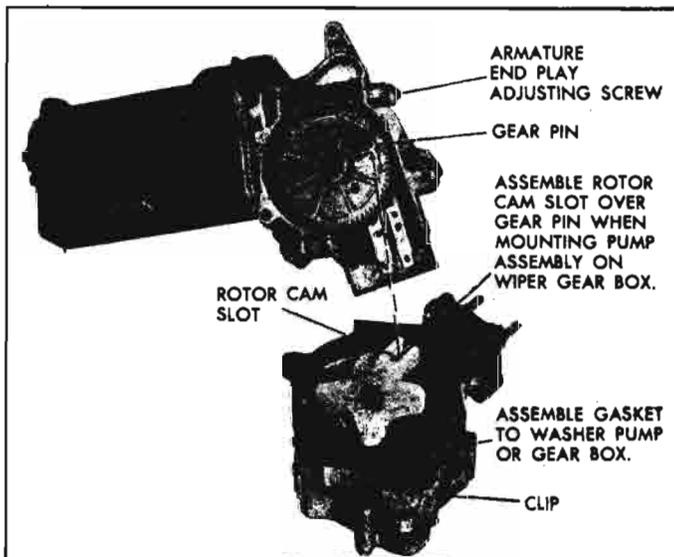

Fig. 8-132—Mounting Washer Pump to Gear Box
6. Reassemble washer pump on gear box cover. See Figure 8-132 for washer pump to gear box installation.
- Adjust armature end play by loosening end play adjusting screw lock-nut (fig. 8-132) and tighten the adjusting screw until finger tight. Back off $\frac{1}{4}$ turn and tighten lock-nut.